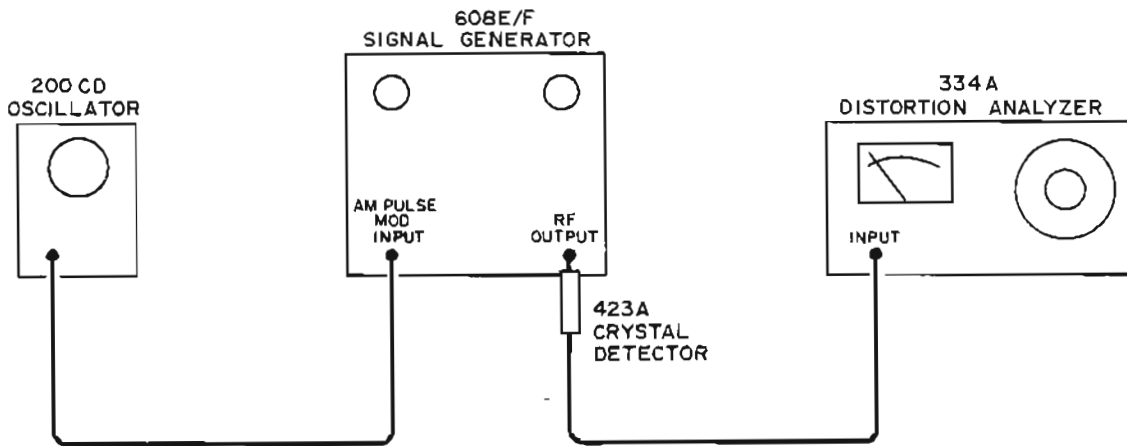

Figure 5-8. Envelope Distortion Test Setup
a. Connect signal generator in test setup illustrated in Figure 5-8.